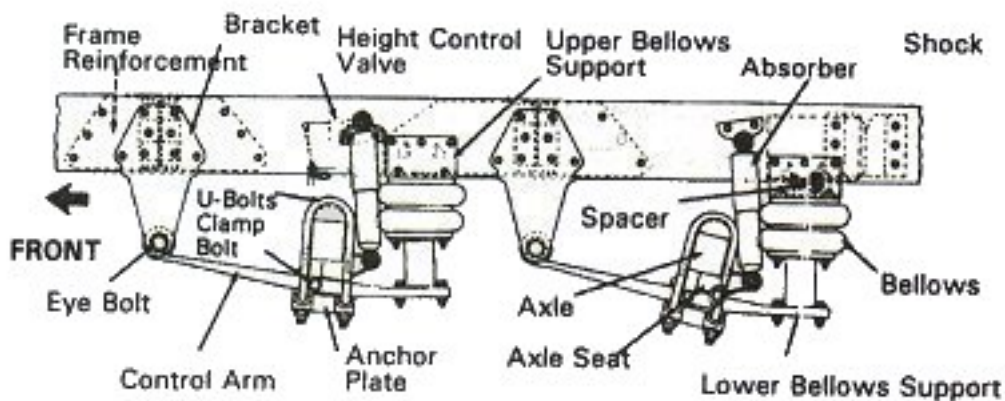

Figure 2-4 Air Suspension Parts
- Leaking shock absorbers (Figure 2-4).
- Air suspension systems that are damaged and/or leaking (Figure 2-4).